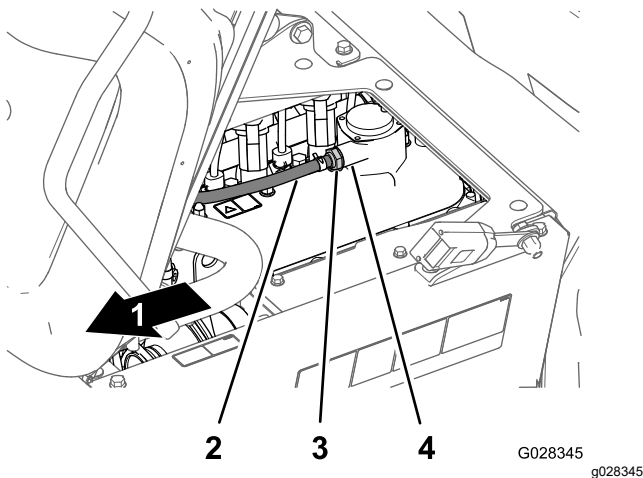

Figure 81
2. Remove the PCV valve from the fitting of the valve cover (Figure 81).
Note: If the internal restrictor of the valve rattles, the PCV valve is serviceable; if the internal restrictor is not free to rattle when shaken, replace the PCV valve (Figure 81).
4. Insert the PCV valve until it is fully seated in the seal for the valve-cover fitting (Figure 81).